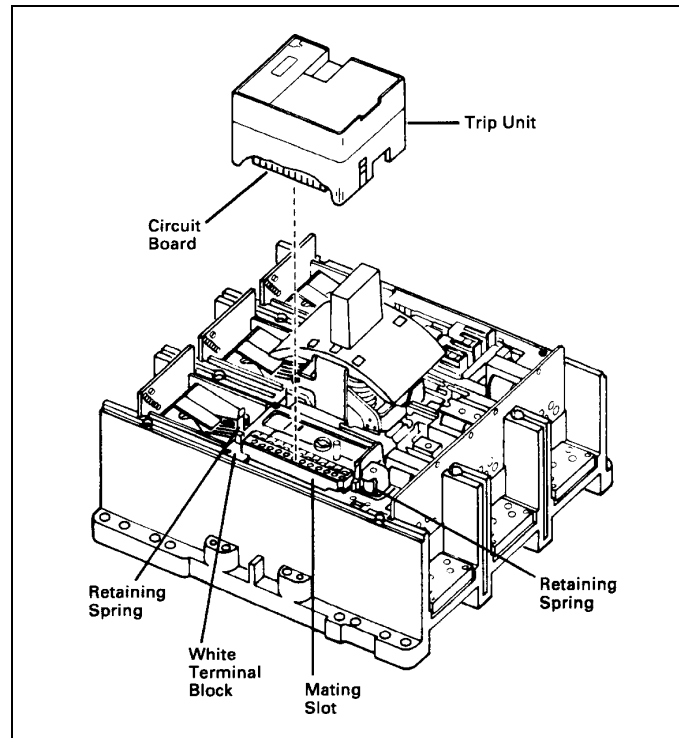

Fig. 3.7. Installation of Trip Unit
- b. Position the replacement trip unit above the white terminal block to the left of the circuit breaker handle. Align the protruding circuit board with the mating slot in the white terminal block (see Fig. 3.7).